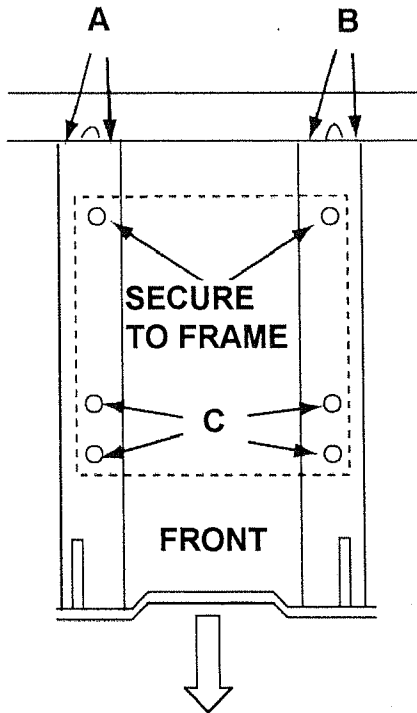

FIGURE 4
1. (See Figure 4) Grind excess weld at joints "A" and "B". These surfaces must be flush. Paint bare areas red for protection.
7. Mount cylinder and bracket to loader frame with four 3/8" x 1-1/4" bolts and 3/8" top lock flange nuts. Use holes "C" shown in figure 4.